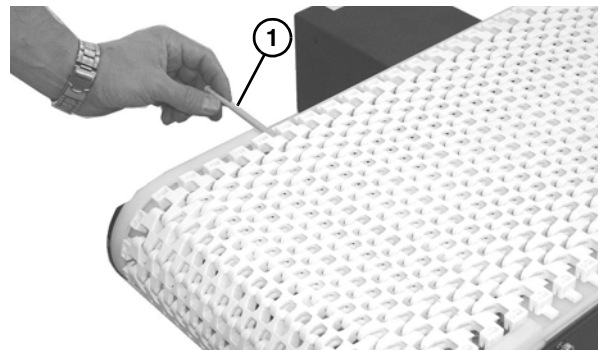

Figure 15
1. Use a punch and hammer to push the belt rod (Figure 15, item 1) out by striking the rod end opposite the retaining head.